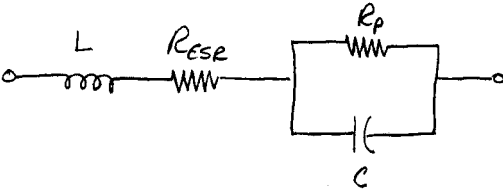

Figure 5. Equivalent circuit for a capacitor.
A circuit model for a capacitor is shown in Fig. 5. Likewise at high frequencies, the capacitor does not perform as a capacitor anymore. The dominating terms are the effective series resistance (ESR) and the total lead inductance (L).